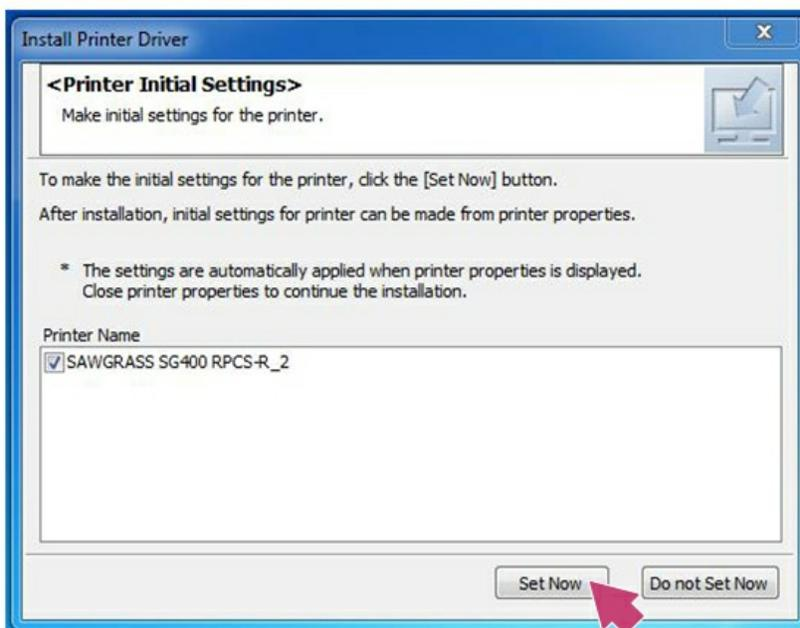

FIGURE 16
16. Click **Set Now** to continue. See Figure 16.